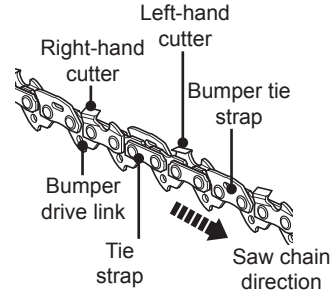

Fig. 23
2. The height difference between the tooth and the ridge is the cutting depth. When sharpening the saw chain (15) you have to consider the following points (Fig. 23).